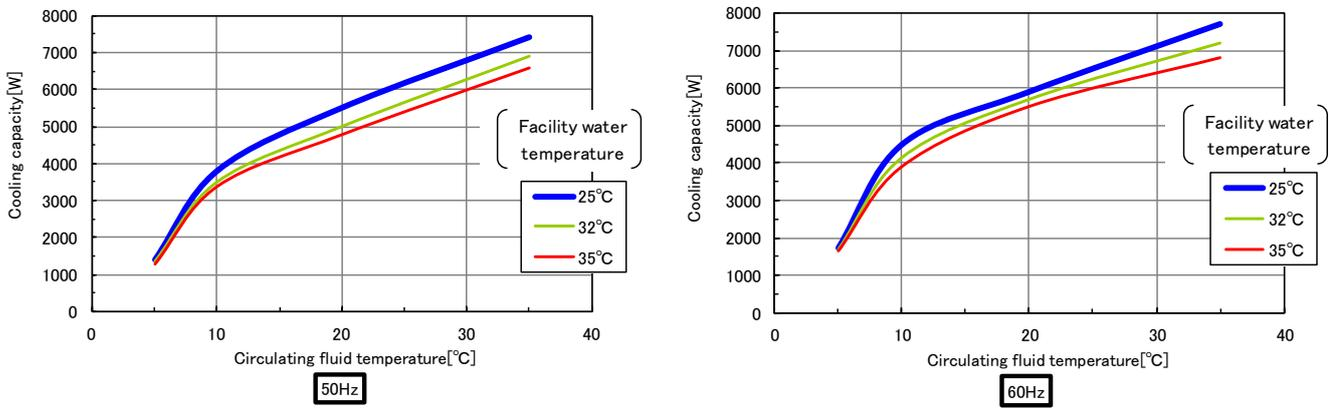

Fig 9-10 Cooling capacity (HRR050-W*-40-*)
*The amount of the facility water for the option with rated circulating fluid, cooling capacity which is described in fig.9-10.